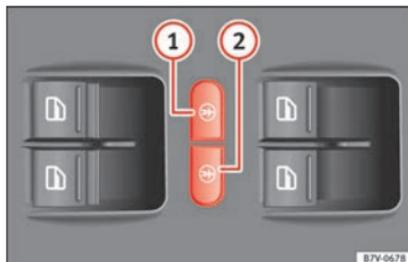

Fig. 136 In the driver door: electric child safety locks buttons
The electric child safety lock avoids opening and locking of the sliding door and its electric windows from the inside so that children cannot accidentally open the door while the vehicle is being driven. Using the left-hand **» Fig. 136** **①** or right-hand side **②** button, the childproof lock is activated on the left- or right-hand side respectively.
To switch system on:	Press the button » Fig. 136 ① or ② .